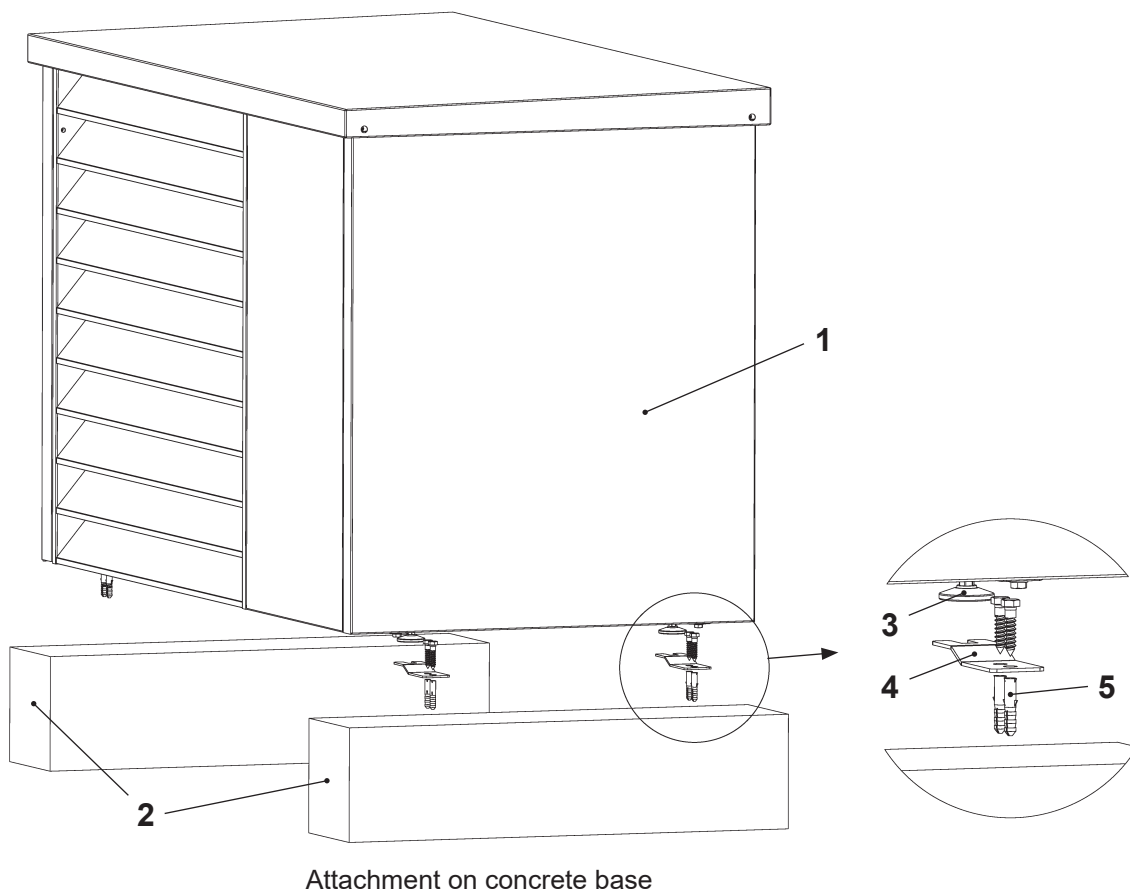

Fig. 04
1. Place the outdoor unit (1, Fig. 04) on a firm surface (concrete base (2), floor plate or similar base) on site. Please also note the "static system design" in chapter 1.5.3.
3. Secure the outdoor unit with the attachment brackets (4).